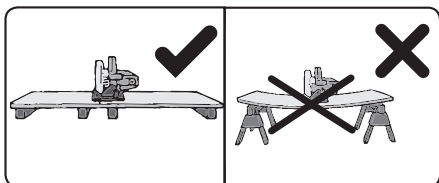

Fig. 5
- Place supports underneath large areas at the edges and near the location of the cut to reduce the risk of the saw blade becoming clamped and the resulting kickback due to the board bending (fig. 5).